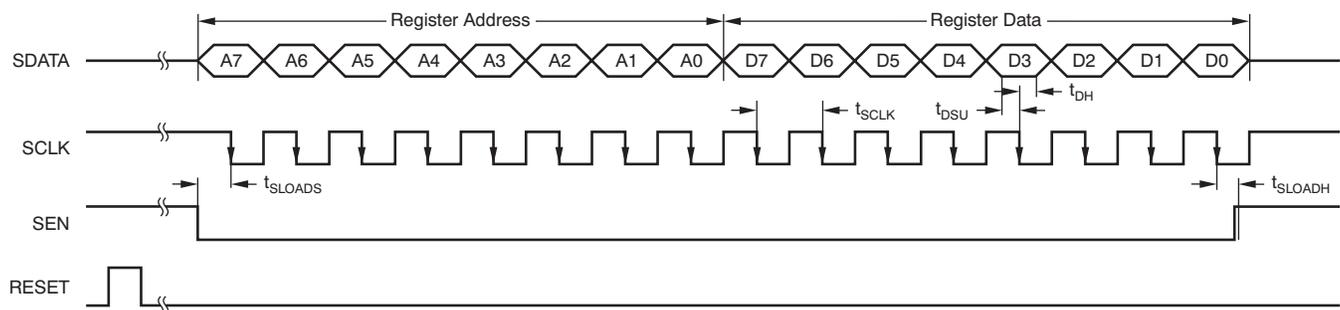

Figure 66. Serial Interface Timing
1. Either through hardware reset by applying a high pulse on RESET pin (of width greater than 10 ns), as shown in Figure 66; or